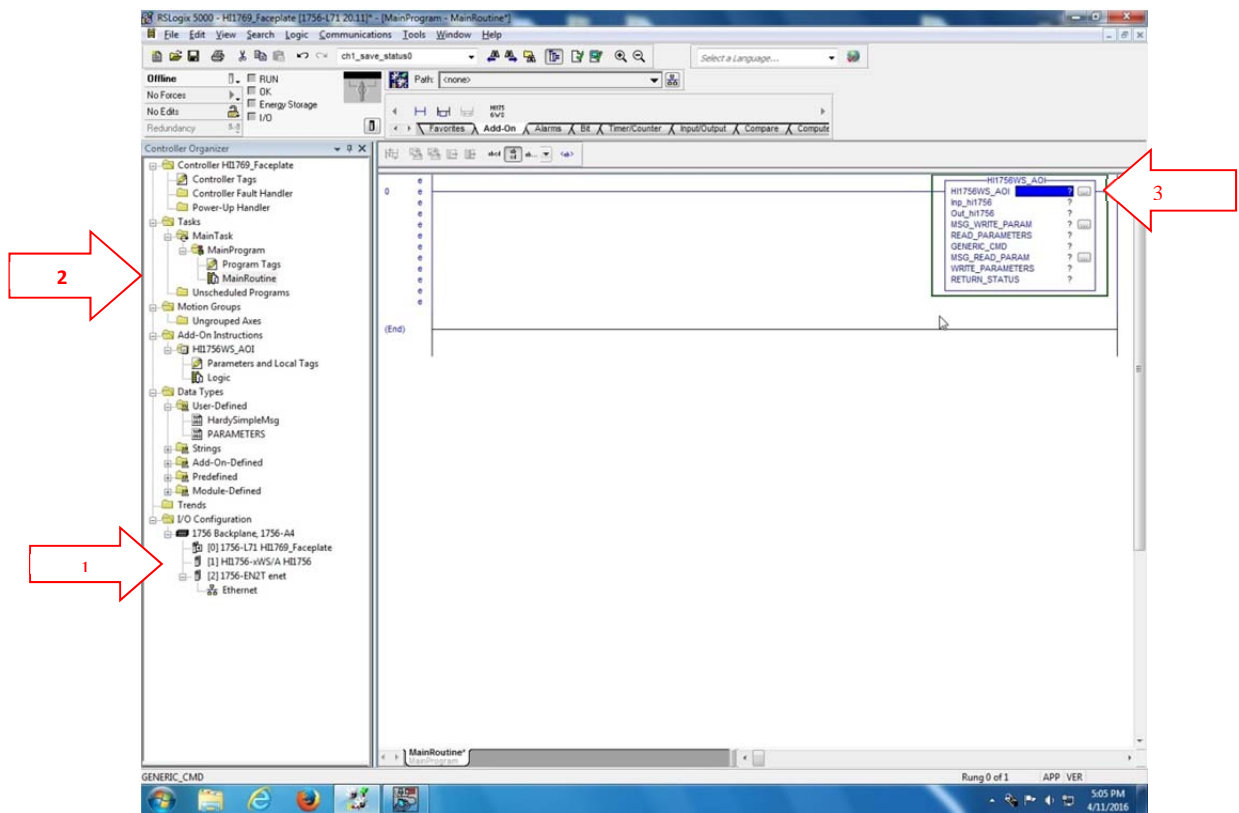

Figure 2
- Add the HI 1756-WS/2WS Plug-In Weight Module (PIM) to the I/O configuration structure. See Figure 2, note 1.
- Add the AOI onto the main routine. See Figure 2, note 2.
- Give the HI1756_Faceplate_AOI a name and create the tag. This will be an "HI1756WS_AOI" data type. Any name created with alpha-numeric characters is valid. See Figure 2, note 3.
- Inp_HI1756: Associate this label with the Input table for the HI 1756-WS/2WS PIM. Click and drop down the list to find the input tables for each device. Choose the one for the HI 1756-WS/2WS PIM by its name in the controller tags. See Figure 2, note 3.
- Out_HI1756: Associate this label with the Output table for the HI 1756-WS/2WS module. Click and drop down the list to find the output tables for each device. Choose the one for the HI 1756-WS/2WS PIM by its name in the controller tags. See Figure 2, note 3.